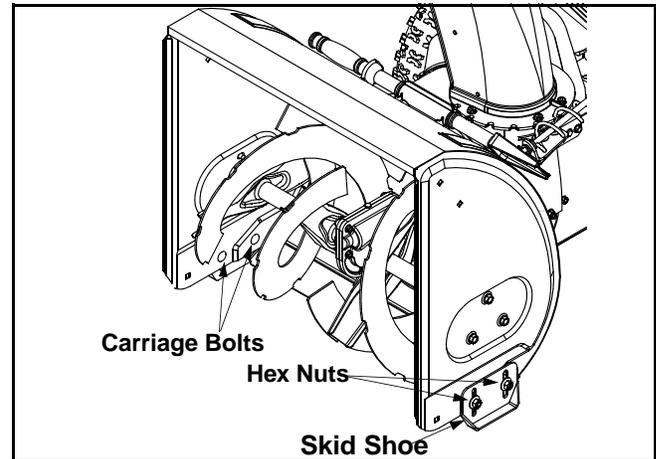

Figure 12
- Adjust skid shoes by loosening the four hex nuts and carriage bolts and moving skid shoes to desired position. Make certain the entire bottom surface of skid shoe is against the ground to avoid uneven wear on the skid shoes. Retighten nuts and bolts securely. See Figure 12.